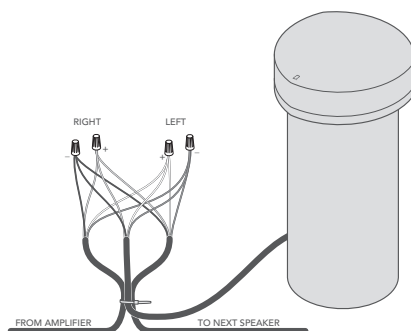

Figure 8
1. As with the satellite speaker installation, create a loop approximately 10" in length, pulling the wire from the spool side. Leave 14-16" of excess wire so that the wire doesn't kink or pull taut when covering the wire with dirt in the trench. Use a wire tie to hold the wire loop in place and provide strain relief (see Figure 8).